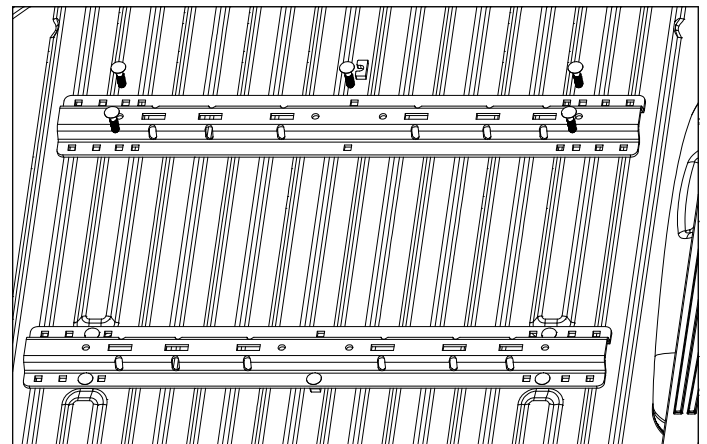

Figure F3: View looking into truck bed from the tailgate.
3. **Install forward mounting rail.** Re-position the forward mounting rail over the drilled 9/16" holes in the bed. Place a 3/8" U-shaped spacer where needed between the bed and the mounting rail. Install a 1/2" x 2" carriage bolt through the mounting rail into each of the five drilled holes, as shown in Figure F3. Under the bed place a 3/8" U-shaped spacer where needed between the bed and the side plate flanges. Attach each of the carriage bolts with an offset rectangle washer, lock washer, and nut. Hand tighten each nut.